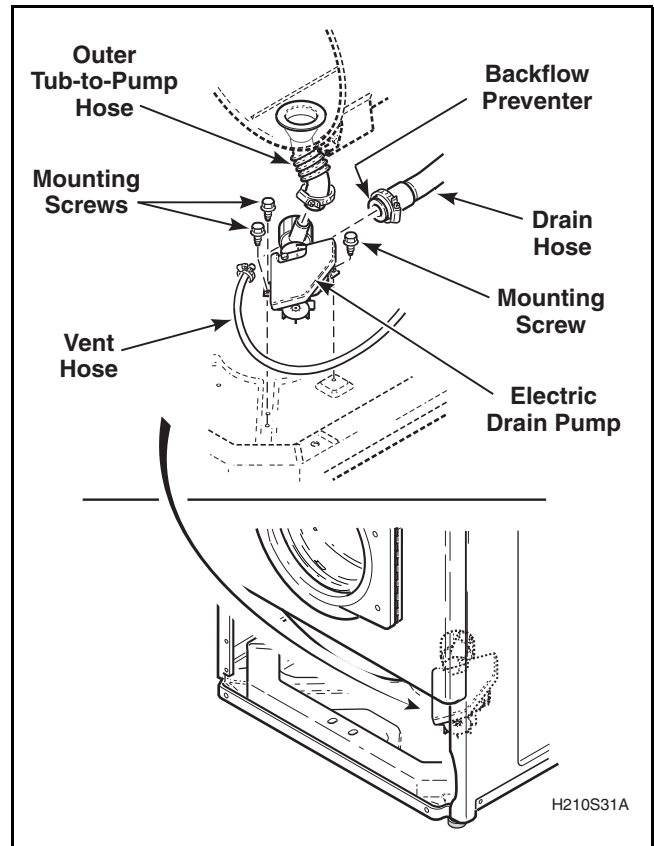

Figure 61
- Loosen hose clamps and remove three hoses connected to electric drain pump (outer tub-to-pump hose, vent hose and drain hose). Refer to *Figure 61*.
- Remove 3 mounting screws holding pump to base and remove pump out through front of washer. Refer to *Figure 61*.